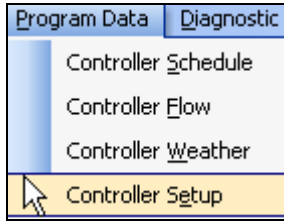

Figure 16.5.1B
1. In the toolbar at the top of the screen click on **Program Data** then scroll down to the words **Controller Setup** and click on it (Figure 16.5.1B).